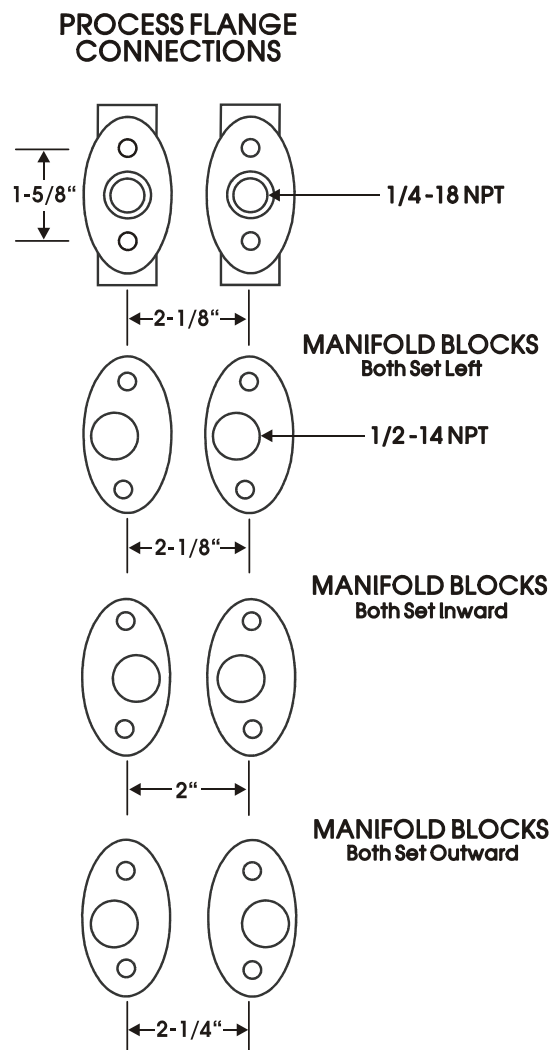
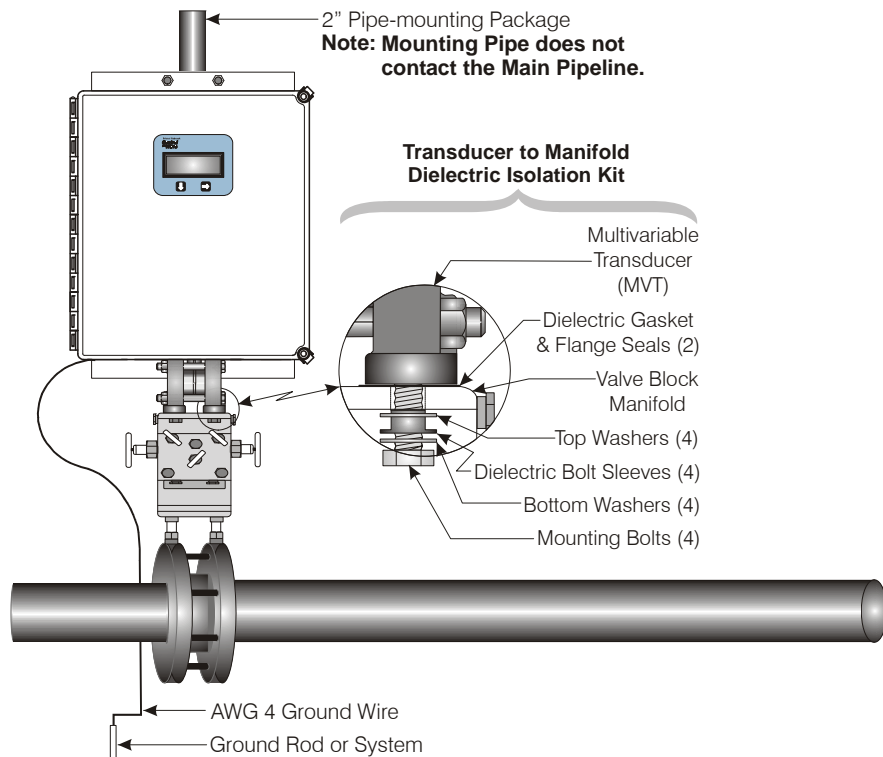
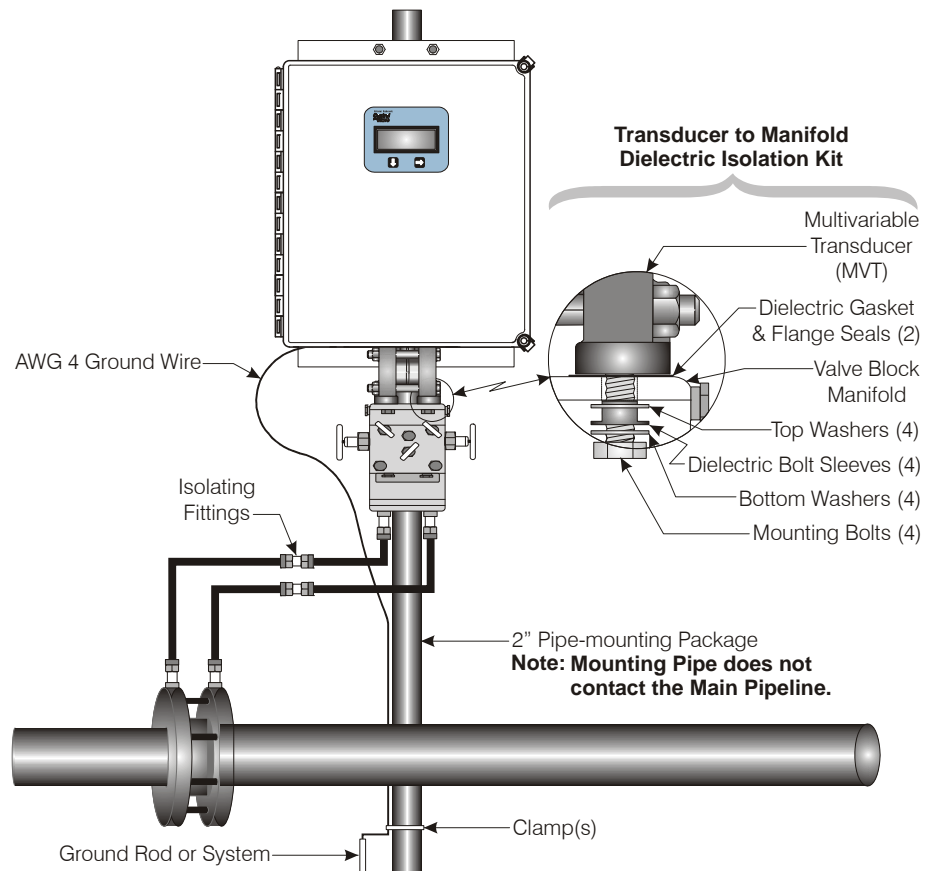

Figure 2-9. Process Flange and Optional Manifold Block Connectors
Figure 2-10. ControlWave EFM Direct Mount Installation with Cathodic Protection
Figure 2-11. ControlWave EFM Remote Installation with Cathodic Protection
- You mount the MVT to a process manifold which then mounts to the main (meter run) directly or via two pipes. (See *Figure 2-9*, *Figure 2-10*, and *Figure 2-11*).
Figure 2-9 details MVT process flange and optional manifold block connector mounting dimensions.
Standard Process Flange for MVT – Two process flanges containing the connection ports are assembled to the transmitter. Port designations (L and H) are stamped on the body of the flanges. Ports accept ¼-18 NPT pipe connections to 2-1/8 in. centers for connection to orifice taps or a standard three-valve manifold. These process flange connections are illustrated at the top of *Figure 2-9*.
Optional Process Manifold Blocks – Process manifold blocks may be installed on the transducers to permit the use of connector assemblies having different connection centers. The manifold blocks, which are oval in appearance, mate with the transmitter's process flange. The blocks may be installed in several positions to achieve different connection centers as shown in *Figure 2-9*.
Note: For installation of the unit without cathodic protection, a direct mount installation is similar to *Figure 2-10* and a remote installation is similar to *Figure 2-11*. The main difference is that **without cathodic protection**, whether you're mounting directly or remotely, **you do not use** the transducer to manifold dielectric isolation kit.